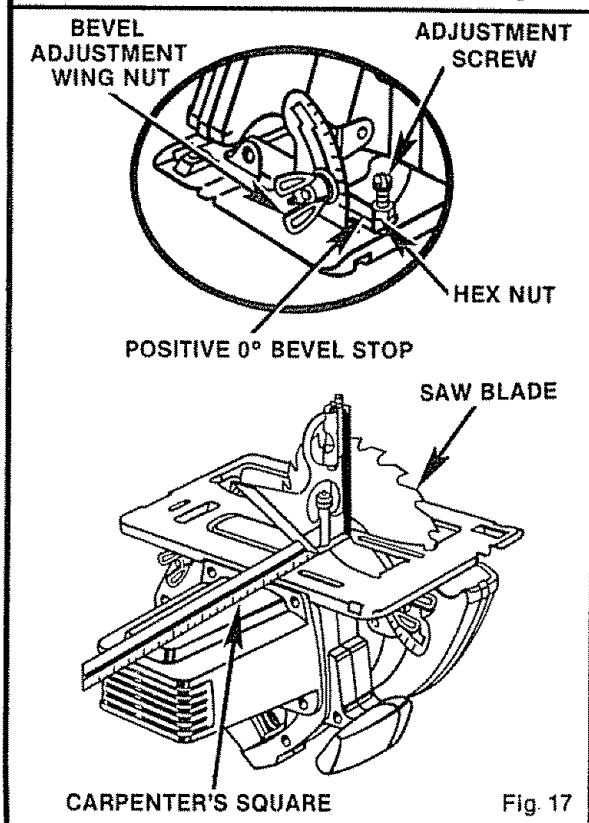

Fig. 17
See Figure 17.
2. Place your saw in an upside down position on workbench. *See Figure 17.*